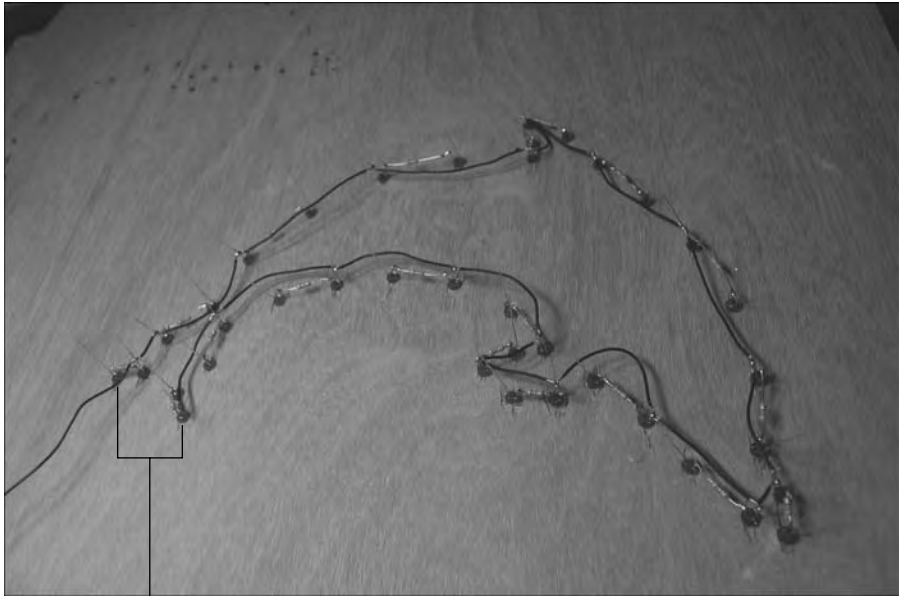

Figure 10-18:
9. Connect the short leads on every other LED to short lengths of 20 gauge black wire, as shown in Figures 10-18 and 10-19.
Figure 10-18 shows a gap without a black wire across the tail of the dolphin. One of the LEDs at the tail with a short lead has only one black wire attached, and the other has a 2' 20 gauge black wire attached; you connect this wire to a terminal block on the breadboard in Step 20.